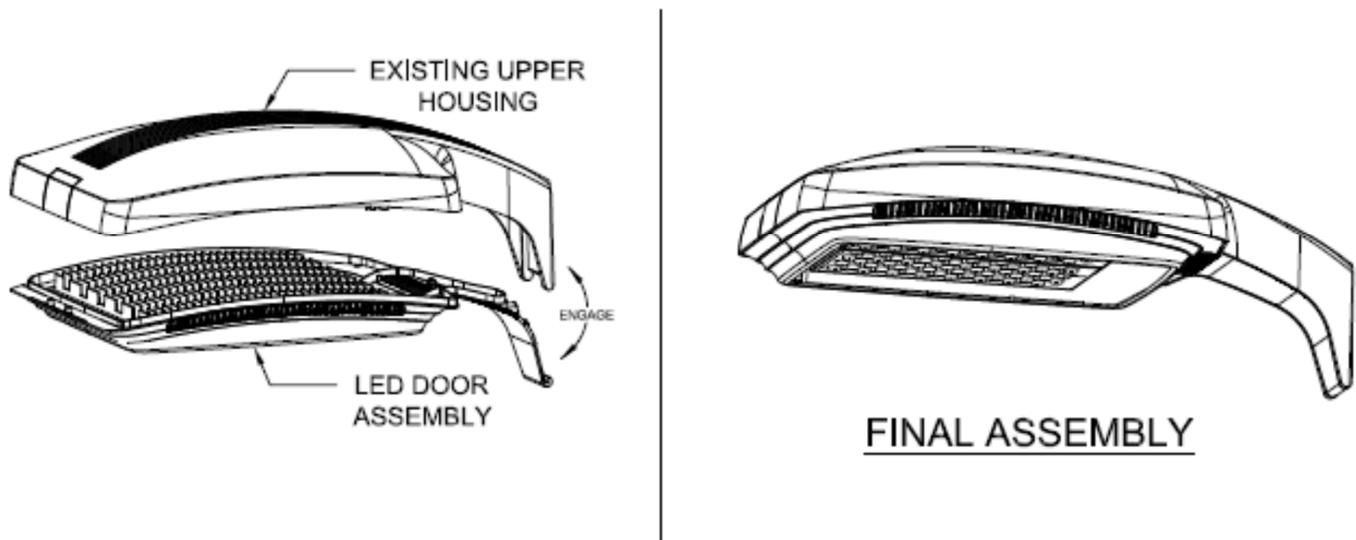

FIGURE 6
7. TO INSTALL NEW LED DOOR ASSEMBLY, ENGAGE HINGE AND ROTATE DOOR TOWARDS THE CLOSED POSITION, LOCK HINGE CLAMP, ATTACH SAFETY CABLE TO DOOR AND DRIVER ASSEMBLY AND CONNECT QUICK DISCONNECT WIRES FROM DOOR ASSEMBLY TO DRIVER ASSEMBLY. CLOSE DOOR AND PRESS LATCH DOWN TO LOCK DOOR. SEE FIGURE 6 AND FINAL ASSEMBLY BELOW.
8. IF ROTATION OF THE OPTICS IS NECESSARY LOOSEN AND REMOVE 9X # 10 PHILLIPS HEAD SCREWS FROM EACH LIGHT ENGINE. IN ORDER FOR THE LIGHT ENGINE TO ROTATE PROPERLY, THE EXTRA WIRE WILL BE NEEDED TO COMPENSATE THE ORIENTATION. EXTRA WIRE LENGTH HAS BEEN PROVIDED ON THIS EXISTING OUTPUT WIRE HARNESS AND CAN BE ACCESSED BY CUTTING THE WIRE TIE AND PULLING THE EXTRA WIRE LENGTH THROUGH THE WIRE WAY GROMMET. NEXT ROTATE LIGHT ENGINE 90° IN DIRECTION SHOWN IN FIGURE 6, HOLE PATTERN WILL MATCH UP TO RECEIVING BOSSES ON HEAT SINK PLANE, MAKE SURE BOTH LIGHT ENGINES FIT DESIRED LOCATION. BEFORE PROCEEDING SECURE FASTENERS TO LIGHT ENGINE AND TORK 15 FT. LBS. IF EXCESS WIRE IS HANGING, PULL WIRE HARNESS GENTLY THROUGH THE WIRE WAY GROMMET AND BUNDLE WIRE NEATLY TO PREVENT SNAGS, REPLACE EXISTING WIRE TIE WITH EXTRA ZIP TIE THAT HAS BEEN PROVIDED.